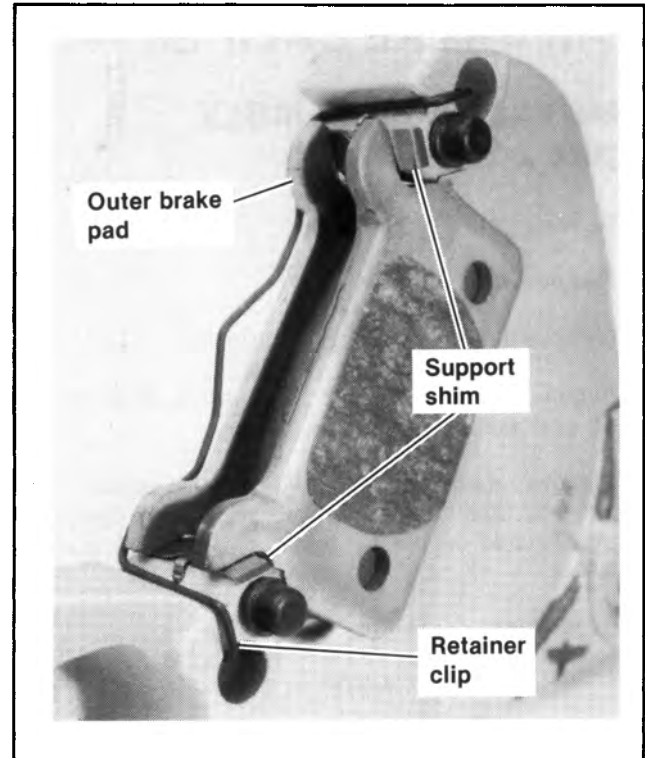

Figure 2-59. Retainer Clip Installation
2. From wheel side of brake disc, slide one brake pad (4) over pad shims (3). Slide second brake pad over pad shims (3) from saddlebag carrier side. Insert retainer clip (13) in holes in mounting bracket (1) and bring clip over the top of outer pad (4) as shown in Figure 2-59.